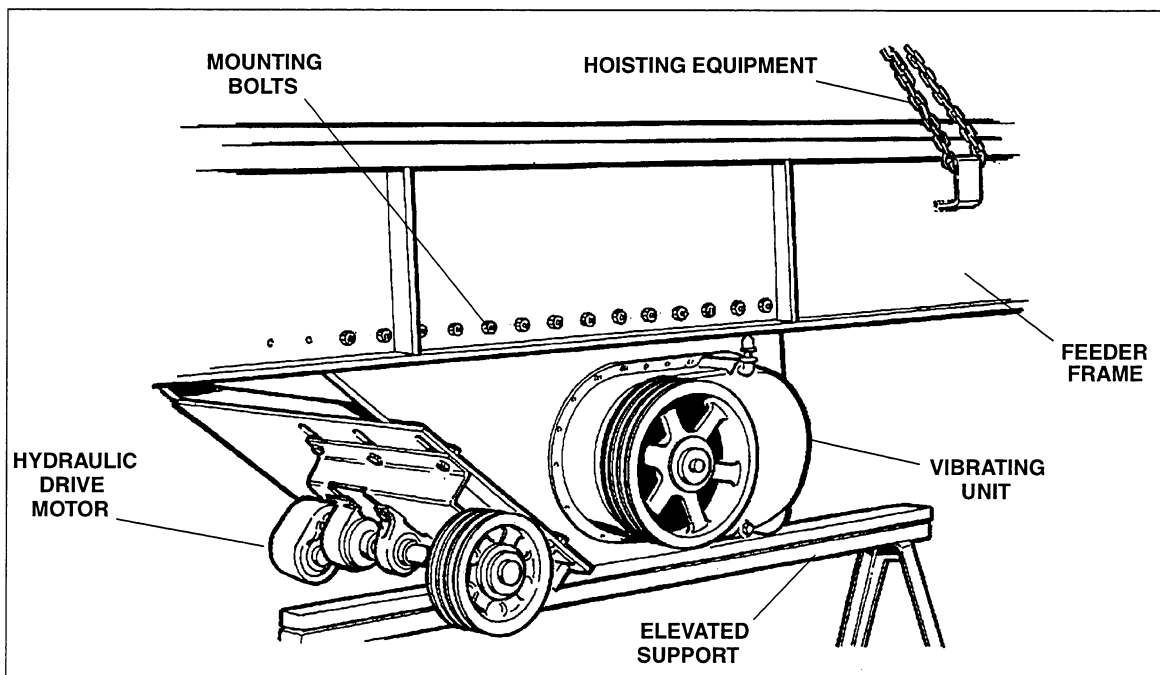

Figure 7-4. Vibrating Unit Removal and Installation
7. Place the feeder on level blocking, or other supports, as shown in Figure 7-4. Do not disconnect the hoisting equipment.
1. Attach suitable hoisting equipment to the vibrating unit and position it on level supports with the mounting rails up. Refer to Figure 7-4.